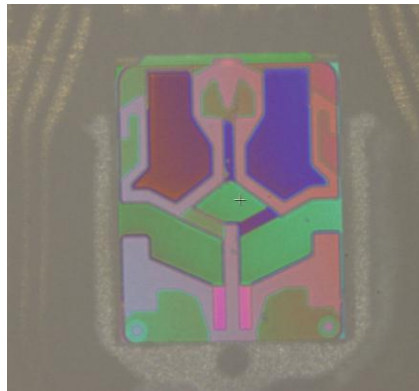

Fig. 46. Target appearance of interferometer fringes
7. Adjust the leveling knobs to widen the fringes in the image. This step levels the surface and optimizes the measurement resolution. Try to achieve a position where the surface to be measured exhibits only one or two colors. Fig. 46 shows an example for a hard disk head assembly. One set of features that are at the same plane (same height) is entirely green, while another group of features at a different height are purple or purple-red. The background is very dull and shows no interference fringes because it is much lower in height and out of focus.